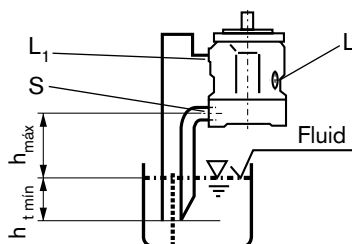

fig 2
- b) If the min. fluid level is below the pump mounting face: pipe ports "L₁" and "S" acc. to fig. 2, "L" plugged; see also "Limit of conditions".
Before installation fill pump housing, keeping it in a horizontal position. For mounting above the tank see fig. 2.